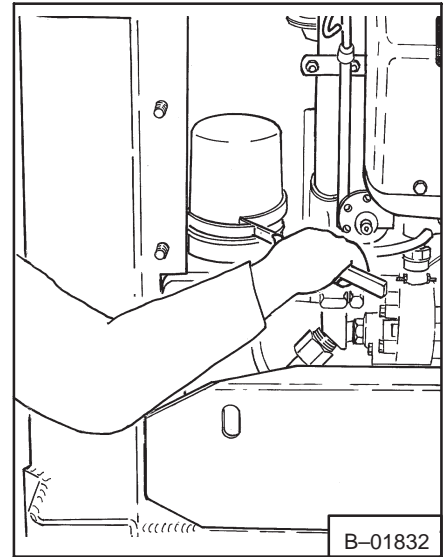

Fig. 1-12 Remove Engine Oil Filter
1. Remove filter element (Fig. 1-12).